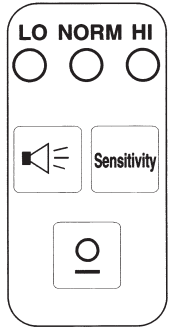

Figure 3
1. **POWER ON:** The detector is turned **ON** and **OFF** by pressing the **POWER** button on the keypad (see Figure 3).